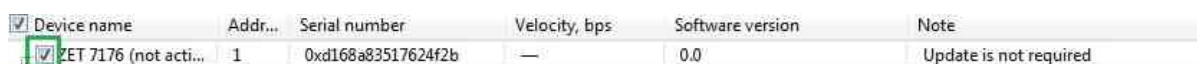

Fig.6.3 Selecting a digital sensor for firmware update
3. Select the digital sensor whose firmware needs to be updated (Fig.6.3).